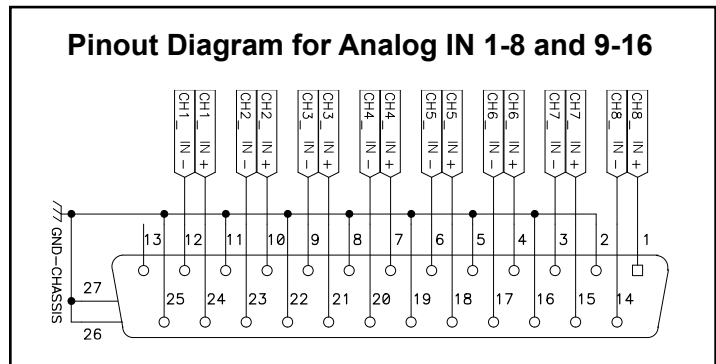

Figure 3
**1) IN 1-8** - This DB-25 connection accepts analog inputs 1-8; analog inputs are balanced line level signals at a nominal level adjustable between +4 dBu = -22 dBFs and -10 dBV = -10 dBFs. Apogee’s AD8-IFC breakout cables can connect here to provide 8 XLR female connectors. (pinout Figure 3).
**2) IN 9-16** - This DB-25 connection accepts analog inputs 9-16. Apogee’s AD8-IFC breakout cables can connect here to provide 8 XLR female connectors. (pinout Figure 3).